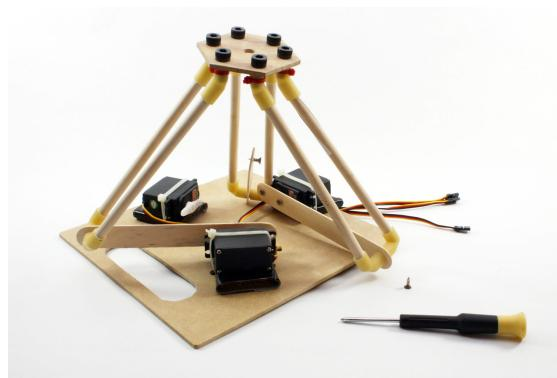

Figure 13-15 Attaching the arms to the servo horns
12. Finally, using the small, double-sided servo horn on the servo, attach the Popsicle sticks to the servo horns with the #4 screws. To orient things correctly, make sure the long side of each servo is parallel to the Popsicle stick. You'll need to manually turn the servo all the way back until it stops with your fingers so that it can go from parallel to the base to fully vertical. If you can't extend the arm, pop the servo horn off, turn the servo back, and pop the horn back on until it has the correct range of motion. Now you're done assembling the mechanical parts. Your bot should look like Figure 13-15 at this point.